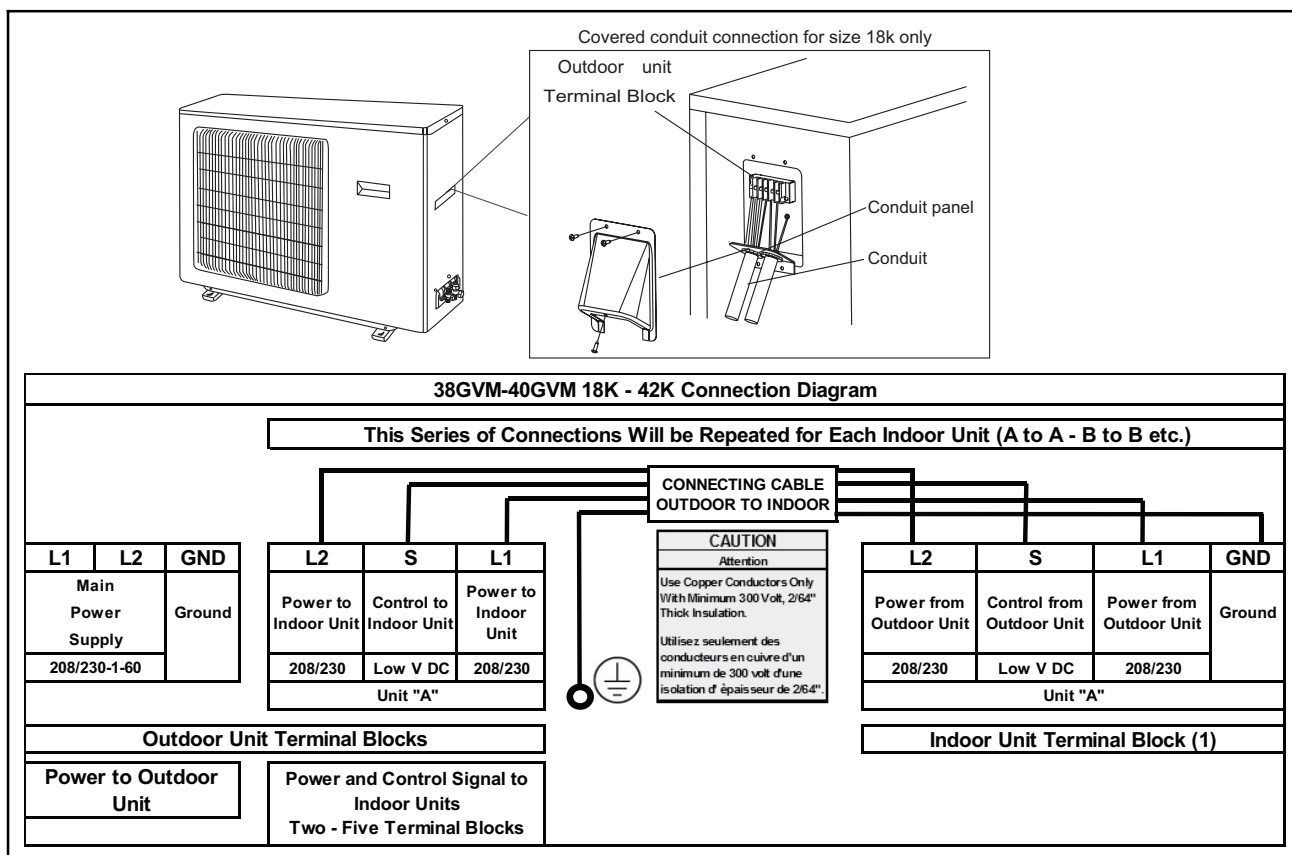

Fig. 16 – Field Wiring
5. Connect conduit to conduit panel. (See Fig. 16)
8. Connect wiring from outdoor unit per connection diagram (see Fig. 16).